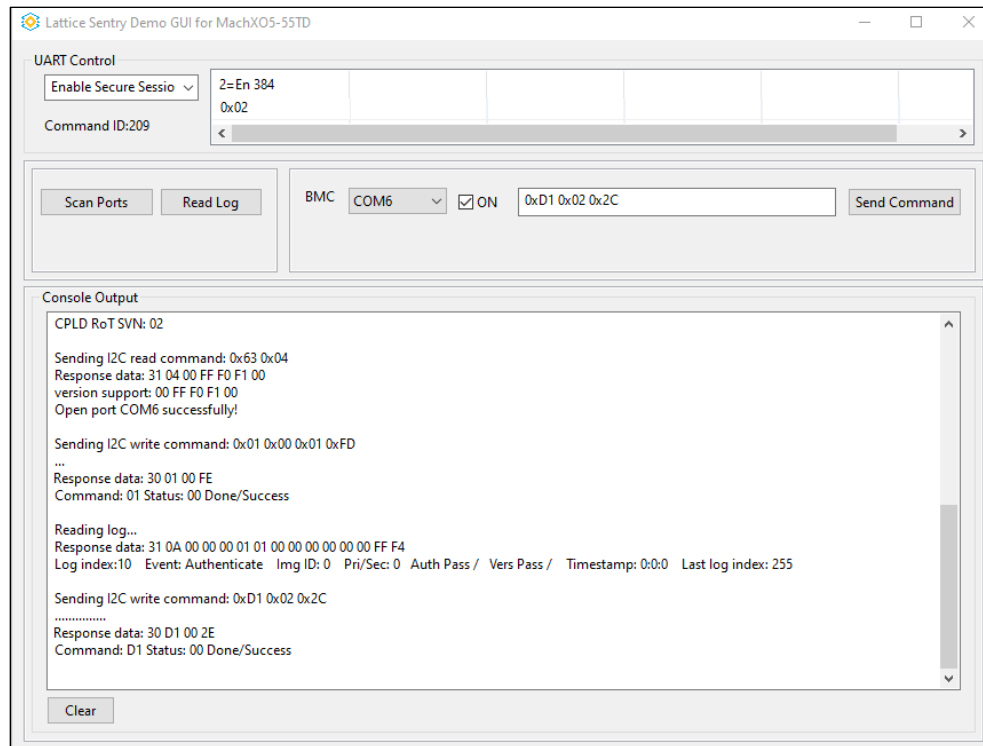

Figure 9.12. Lattice Sentry Demo GUI Secure OOB Mode Enabled
16. Wait for a **Done/Success** message to appear on the Demo GUI console. Now Secure OOB mode is enabled and all commands can be run (Figure 9.12).